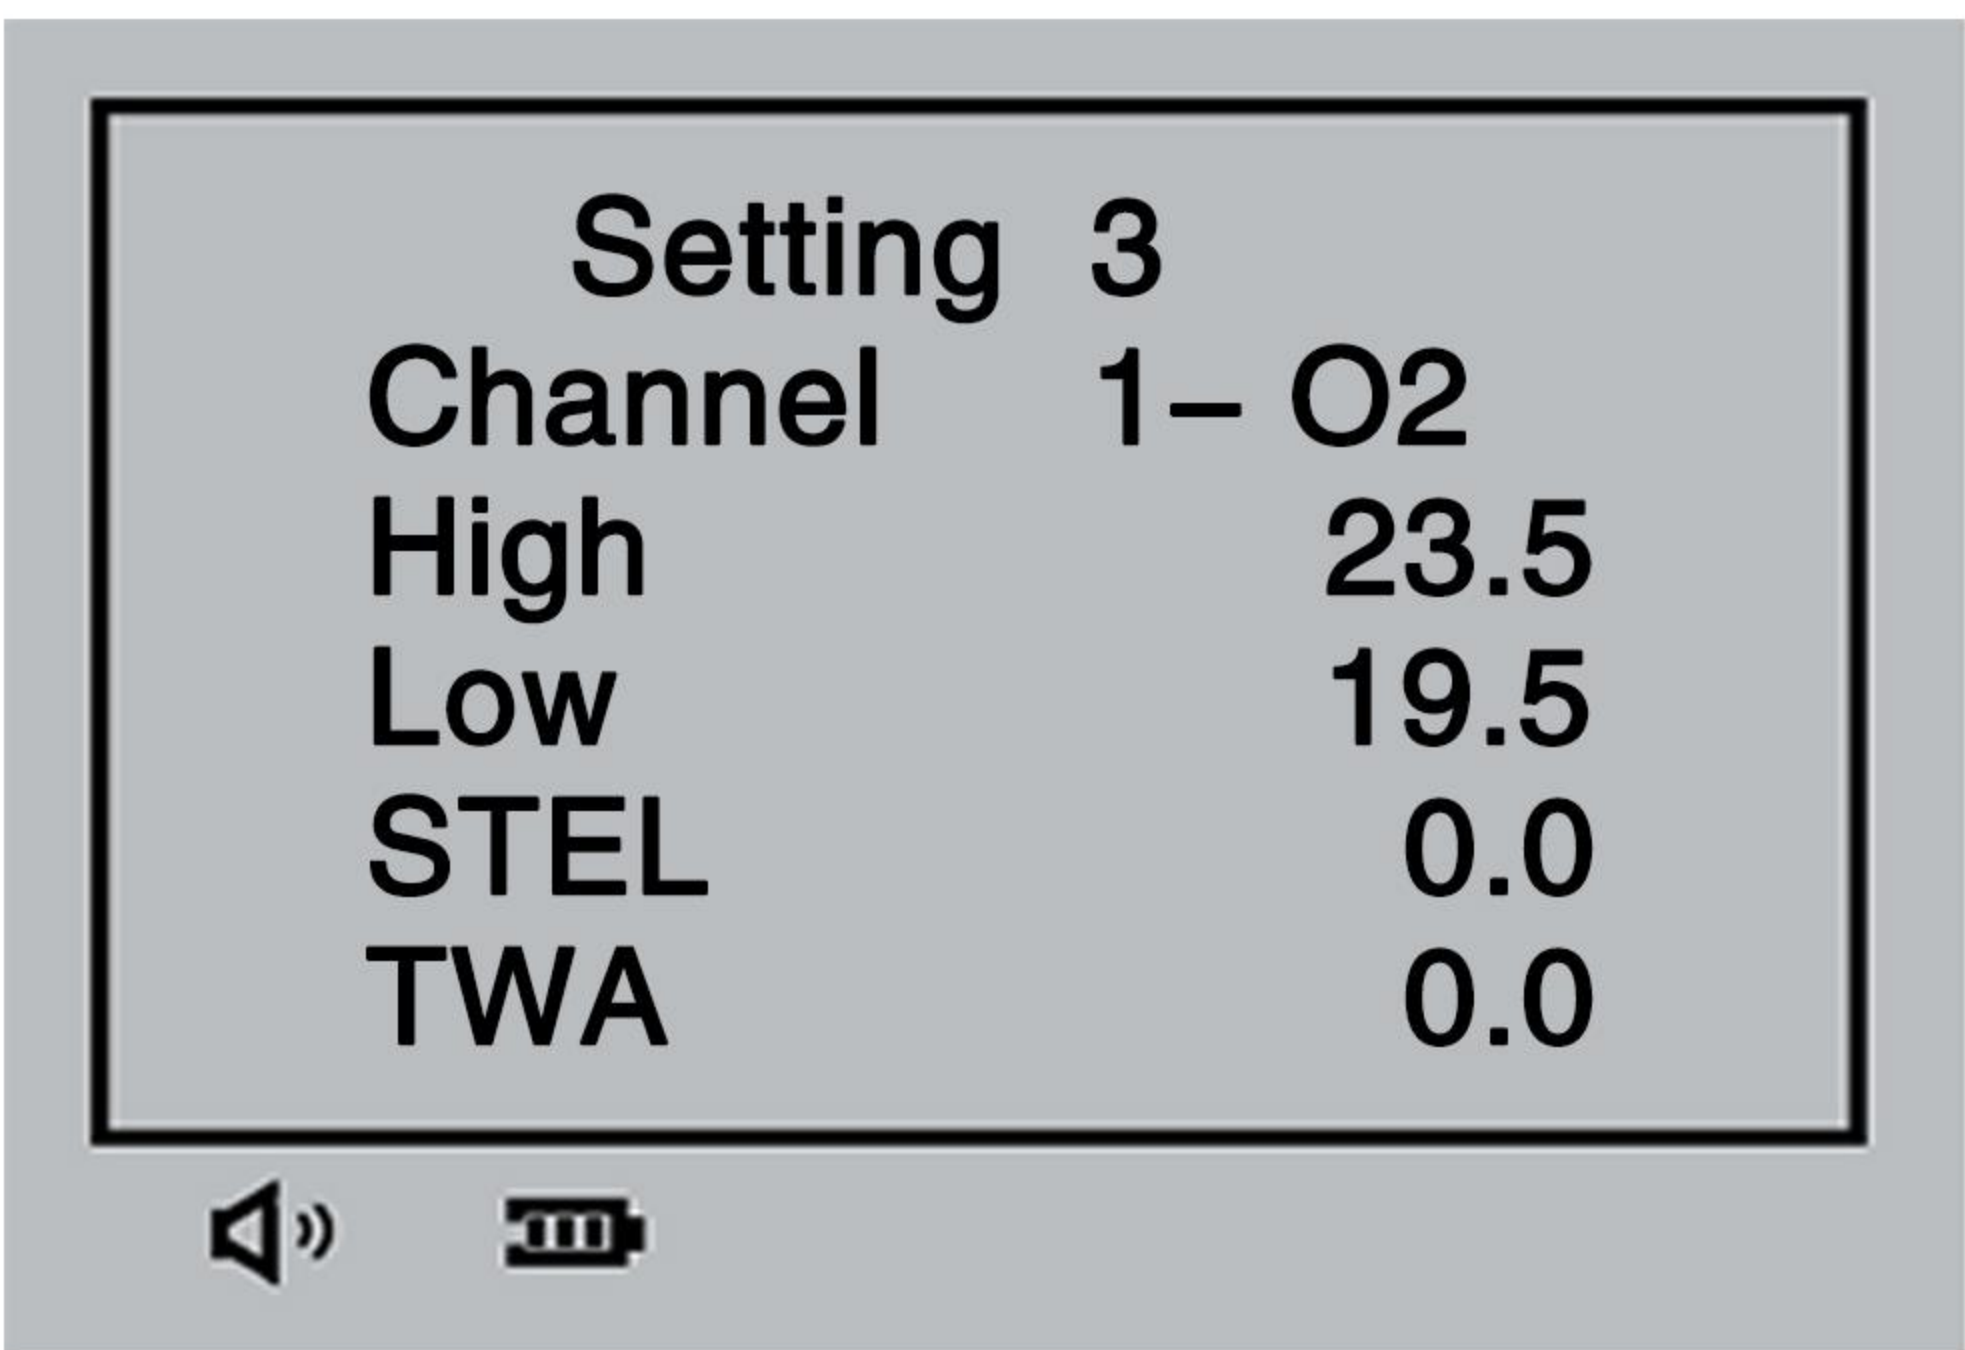

Figure 9
You can select the channel to be configured by pressing the "▲" (up) or "▼" (down) buttons, then press the "①" button to confirm and proceed to Figure 9.
After entering Figure 9, you can increase or decrease the value by pressing the "▲" or "▼" buttons, and press "①" to set the next parameter.